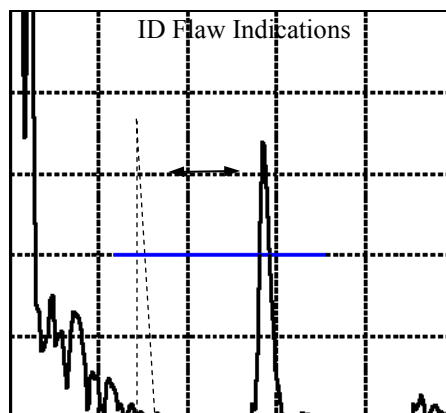

Figure 5. Instrument Display from ID Tears at Varying Material Thicknesses.
- a. Flaws detected in the 1st leg of the sound path will be displayed in the gate depending on the crosstube thickness at that location. Reference Figure 5.